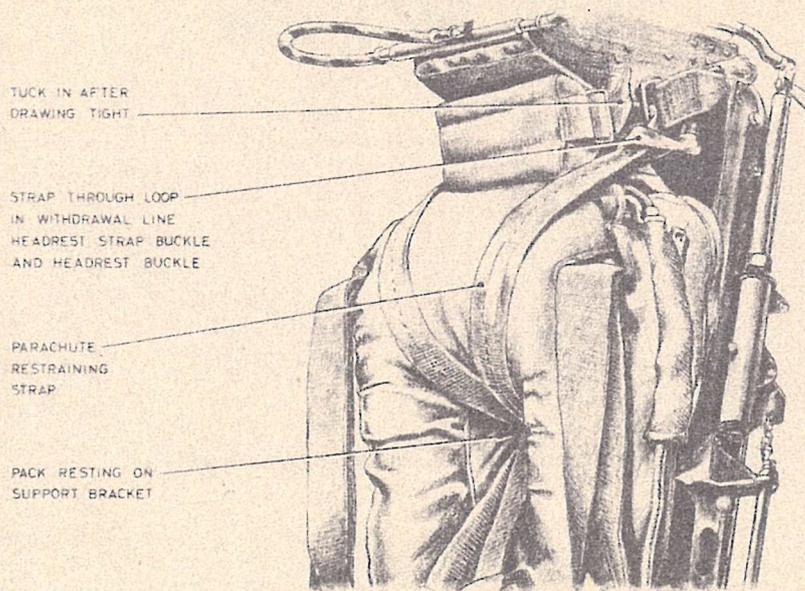

Fig. 3. Installing the parachute assembly: stage 2
- (5) Connect the anchor hook to the static line-cum-manual operating cable.
- (6) Ensure that the manual override lever is in the locked position.
- (7) Place the parachute assembly in the seat pan with the horseshoe pack uppermost, and its top end to the front of the seat.
- (8) Take up the outer shoulder straps of the main harness, ensuring they are not twisted. These are attached at the top to a metal D-shackle. Pass through the arch of the parachute pack, from front to rear.
- (9) Remove the two parachute restraining straps. These are stowed in the buckles on each side of the drogue container together with the headrest pad.
- (10) Operate the 'go-forward' lever and pull out the webbing strap from under the parachute support bracket. This strap must be held or it will spring back.
- (11) Pass the strap up through the D-shackle from inside to outside, with Mk. 23 and Mk. 33 back type parachute assemblies (pilot). With the Mk. 28 assembly (navigator), pass it down from outside to inside (reverse direction).
- (12) Each parachute restraining strap has a metal D-ring at one end. Hook these over the lug on the end of the webbing strap (fig. 3).
- (13) Still holding the webbing strap (threaded through the harness D-shackle) and the two restraining straps (hooked over lug), press down the operating lever on the starboard side of the seat. This lever is immediately below the harness release plunger on the barostatic time-release unit and withdraws the harness locking plunger. (The services of an assistant will be required here).
- (14) Insert the end lug of the webbing strap in the hole under the parachute support bracket, release the lever and the plunger will lock in the eye of the lug.
- (15) Lift the horseshoe pack into position on the support bracket and hold it there. Place the headrest cushion centrally on top of the pack.
- (16) Draw the unattached ends of the parachute restraining straps forwards through the arch and then upwards in front of the pack, towards the buckles on each side of the drogue container. Ensure the straps are not twisted.
- (17) Pass the port strap through the loop in the parachute withdrawal line.
- (18) Pass the end of the strap through the drogue container buckle from the outside inwards.
- (19) Take the starboard parachute retaining strap and assemble to the starboard buckle similarly. (There is no parachute withdrawal line to pass the strap through on this side).
- (20) Pass the ends of the parachute retaining straps through the buckles on each side of the headrest cushion so that the strap ends emerge on the outside of the buckle (fig. 3).
- (21) Work the straps back and forth in the self-locking buckles on the headrest cushion until the parachute pack and cushion are strapped tightly to the seat structure.
- (22) Connect the parachute withdrawal line to the link line by the screw coupling, ensuring:—